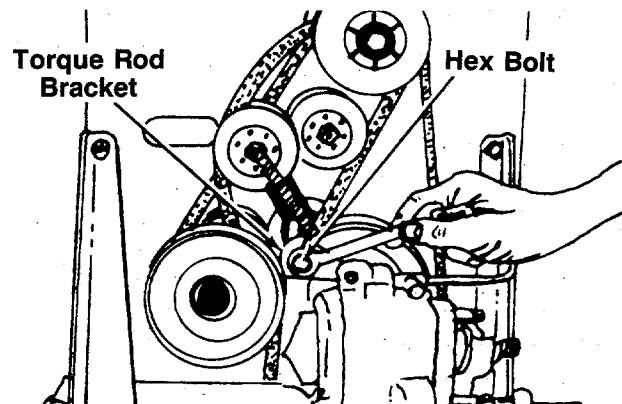

FIGURE 33.
5. Remove the hex bolt which holds the torque rod bracket to the torque rod, and remove bracket. See figure 33.